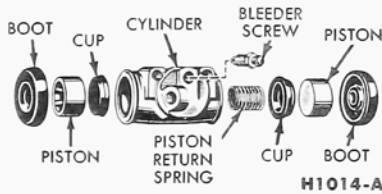

FIG. 3—Duo-Servo Brake Cylinder
1. With the wheel cylinder removed, remove the rubber boots from the end(s) of the brake cylinder. Remove the piston(s), cup(s), and piston return spring from the cylinder (Fig. 3 or 4).
4. Install the bleeder screw (Fig. 3 or 4) in the brake cylinder.